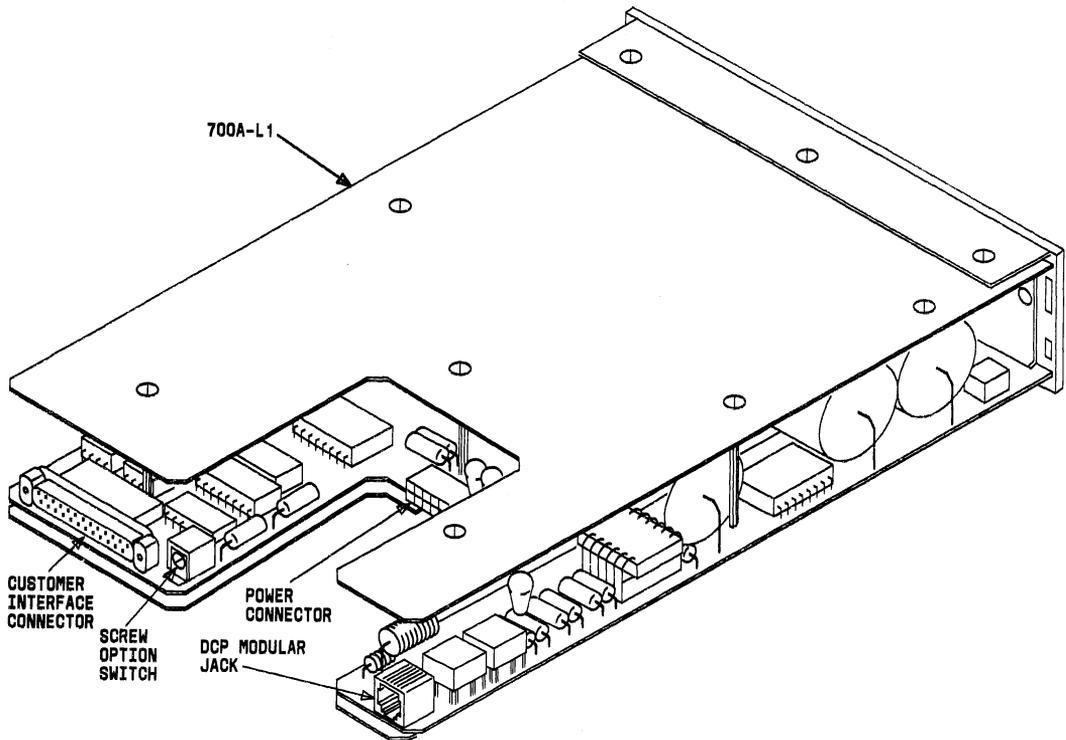

Fig. 3—Rear View of PDM Circuit Pack
2.06 A 25-pin female (RS-232-C) customer interface connector (Fig. 3) is provided at the rear of the circuit pack for connection to a customer provided equipment via an M25B cord. The connector pin numbers, the corresponding circuit mnemonics, and descriptions are given in Table A.
2.07 A modular jack DCP connector (Fig. 3) is provided at the rear of the circuit pack for connection to a LINE jack via a D8W-87 wire cord (customer provided). The connector pin numbers, circuit mnemonics, and descriptions are given in Table B.
2.08 The rear of the PDM circuit pack also contains a power connector and a screw option switch (Fig. 3) which permits connection of the circuit ground to the frame ground. When this screw is fully tightened, the frame ground and the signal ground will be connected. When this screw is loosened (not making contact), frame ground and signal grounds are isolated.